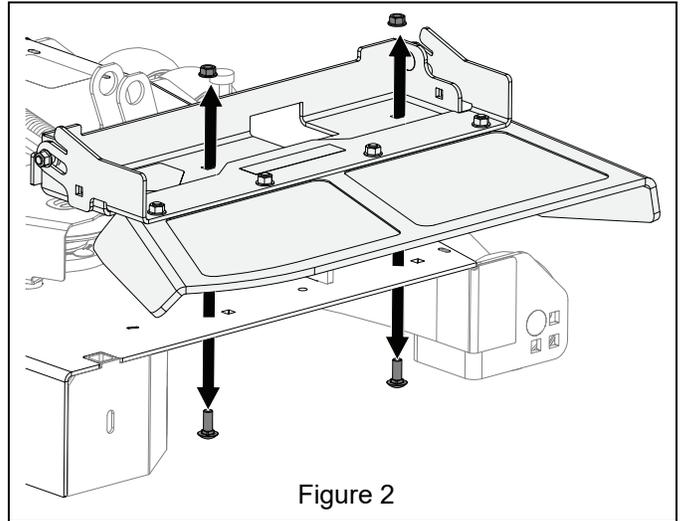

Figure 2
4. Remove and retain two 3/8" x 1" round head square neck bolts and nylon locking hex nuts retaining discharge chute assembly. Remove discharge chute assembly. Retain all parts for operation without mulch kit. See Figure 2.